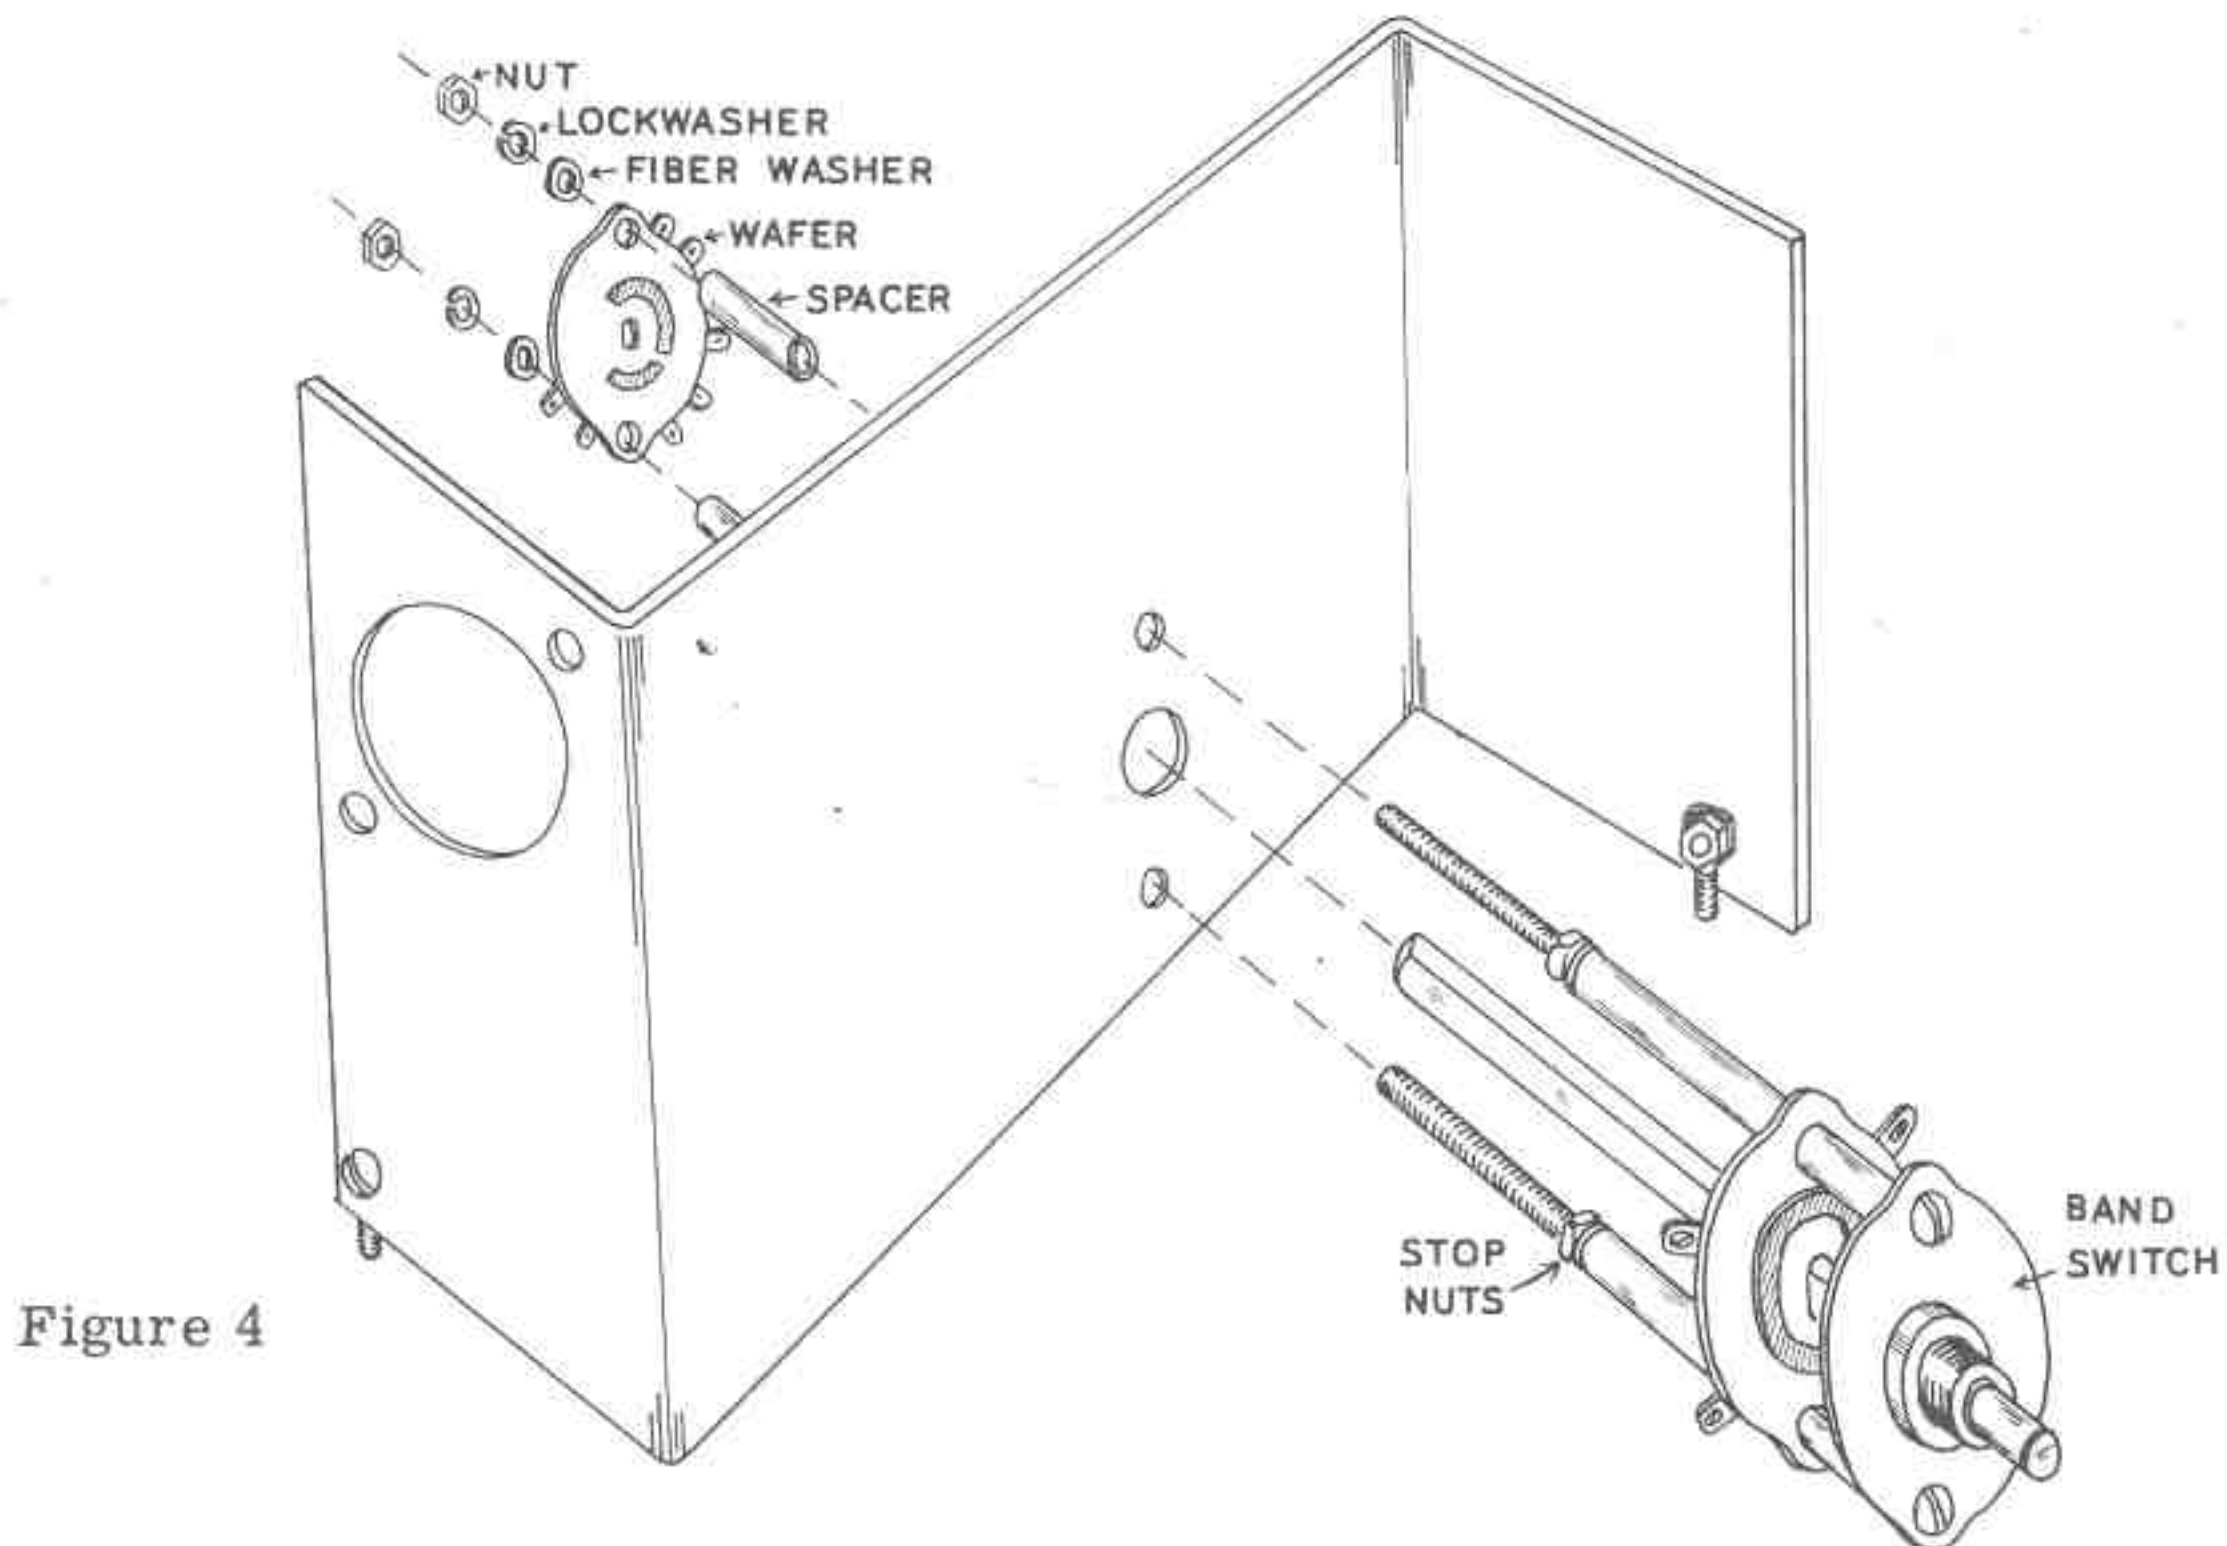

Figure 4
- (✓) Bend the 15 meter insulated tap lead down and connect it to the #2 terminal on the oscillator bandswitch (S).
- (✓) Cut a piece of #20 tinned wire 4" long. Pass it under the center shaft and connect one end to oscillator switch terminal #4 (S).
- ( ) Take special note of the wafer position and identifying (x) mark. Disassemble the rear wafer from the bandswitch back to the stop nuts. (Do not loosen these nuts.) See Figure 4.